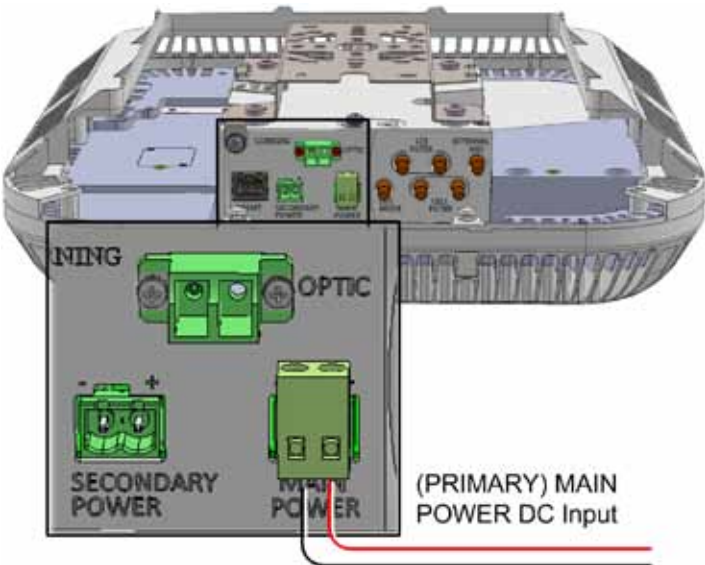

Figure 5-68. RAU MAIN POWER DC Input Connection
10. **RAU MAIN POWER** (for RAU/RAU+RxU) DC input power connections (see Figure 5-68) – connect DC wire pair to the terminal block connector: